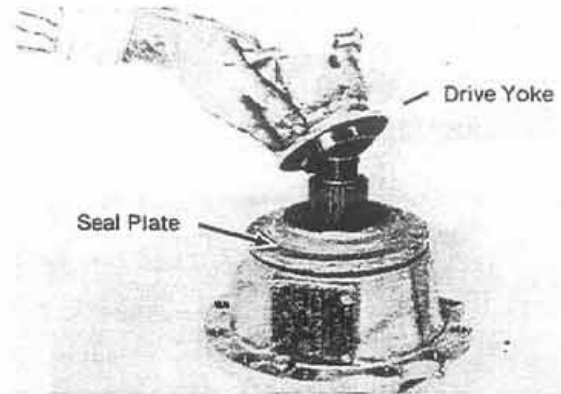

Figure 19:
Step 22. Pull the drive yoke from the pinion shaft (see Fig. 19).
Step 23. Remove the seal plate from the pinion shaft (see Fig. 19).